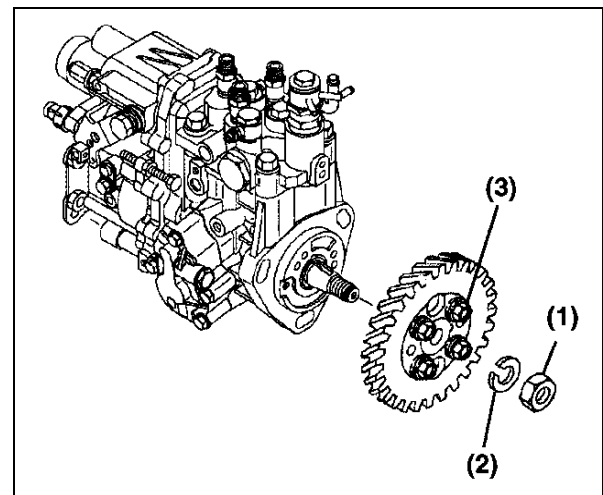

Figure 7
- (18) Do not loosen or remove the 4 bolts (Figure 7, (3)) retaining the pump drive gear nut (Figure 7, (1)) and washer to the hub. Only remove the single drive gear (Figure 7, (2)), leaving the hub attached to the gear.
- (19) Hold the gear train using a large socket wrench on the crankshaft pulley nut. Loosen the fuel injection pump drive gear retaining nut (Figure 7 (1)) and turn it out to the end of the fuel injection pump shaft.